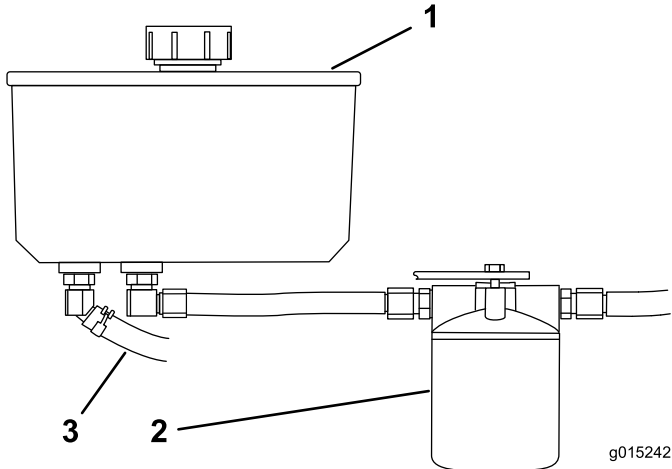

Figure 82
4. Locate the front hydraulic hose under the hydraulic tank, and place a drain pan under the tank (Figure 82).